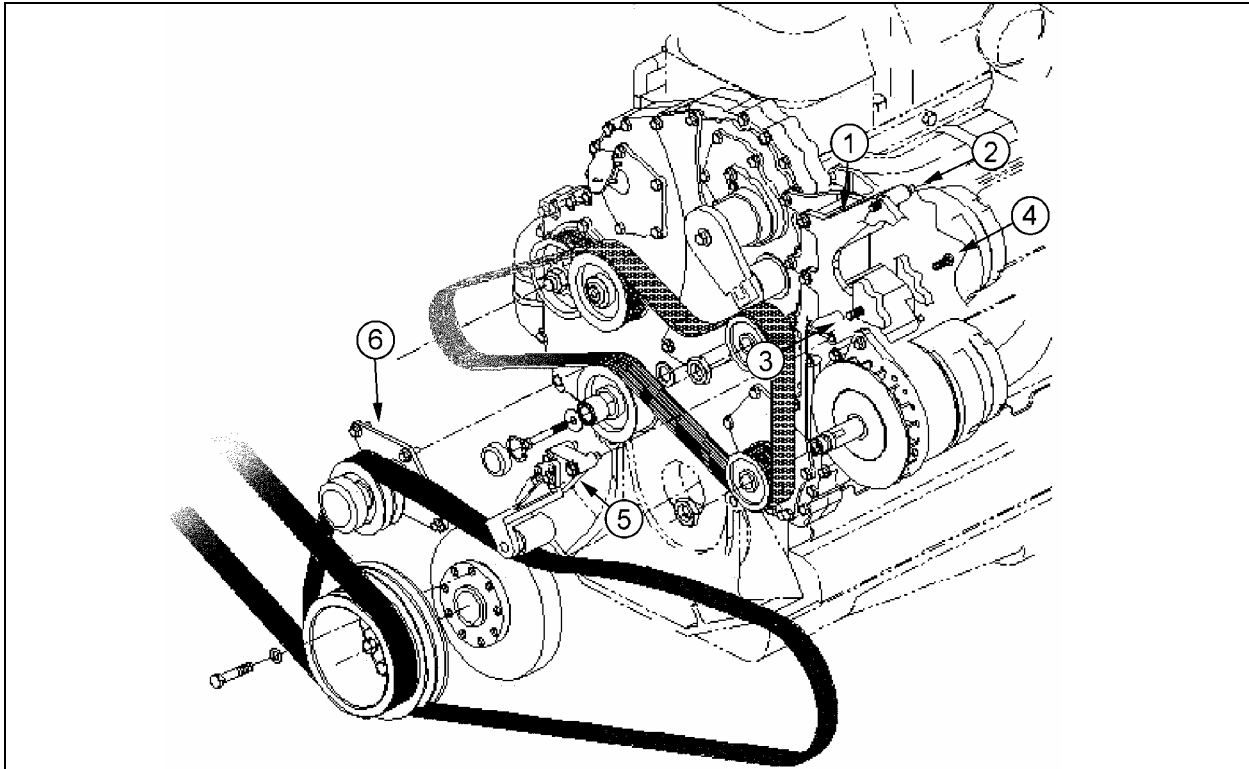

FIGURE 17: TWIN BOSCH ALTERNATORS INSTALLATION
If the alternators needed to be removed, reinstall as follows. Refer to Figure 17 for installation and to figure 14 for tightening specifications:
1. Install alternator mounting bracket (1, Figure 17) to the gear case. Use the four flanged phosphor alloy bolts on the pulley end of the bracket and the flanged nuts at the transmission end of the bracket;
2. Bolt the alternators to the bracket using the three inch bolt at the top of the upper alternator (2, Figure 17) and flanged bolts at the other mounting bosses (3 and 4, Figure 17). Tighten the bolts in the sliding sleeves (4, Figure 17) last as they will adjust to prevent breaking the alternator mounting bosses upon final tightening. Repeat for the second alternator;
4. Install the snubber bracket (5, Figure 17) using three flanged bolts. Do not tighten the adjustment bolts on the snubber until after final tightening;
5. Install the compressor belt idler pulley (6, Figure 17) as shown. A stud inserts into one of the mounting holes of the pulley assembly. Fasten this one using a nut and bolts for the other two.